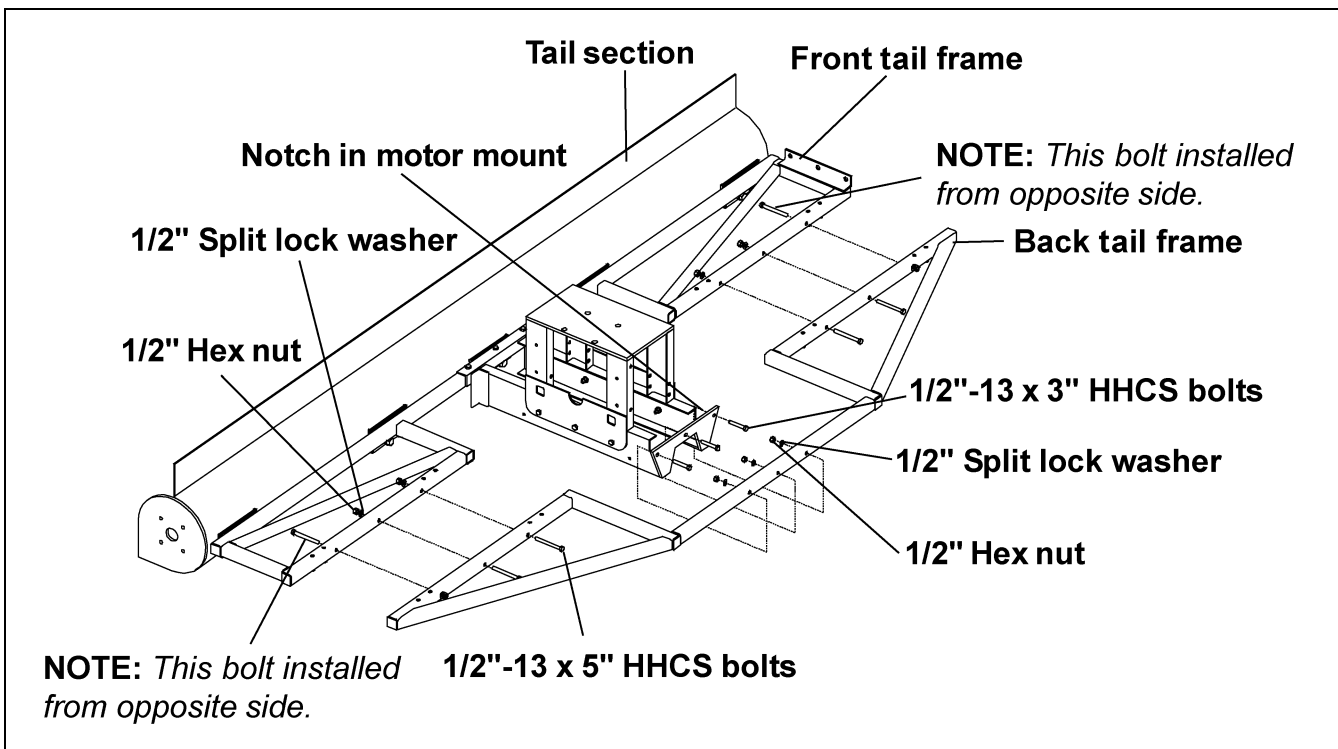

Figure 5F
5. For 12" sweep, place back tail frame into notch at back of motor mount. For 16" sweep place back tail frame on top motor mount. Fasten using three (3) 1/2"-13 x 3" HHCS bolts, split lock washers and hex nuts. (See Figure 5F.)
6. Fasten back tail frame to front tail frame using six (6) 1/2"-13 x 5" HHCS bolts, split lock washers and hex bolts.